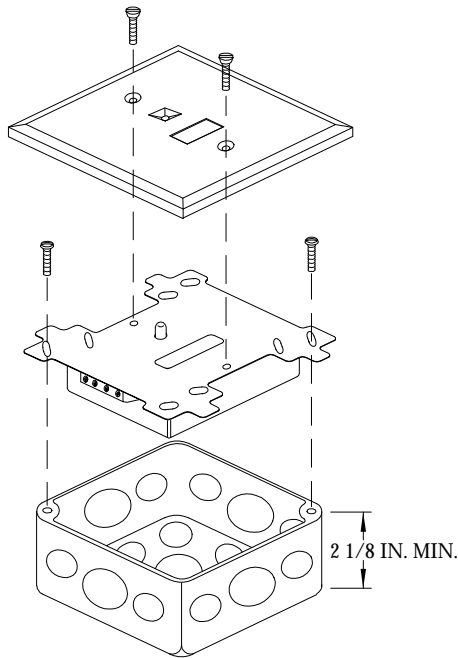
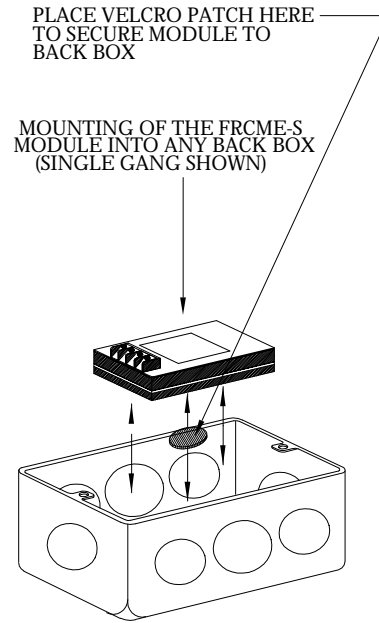
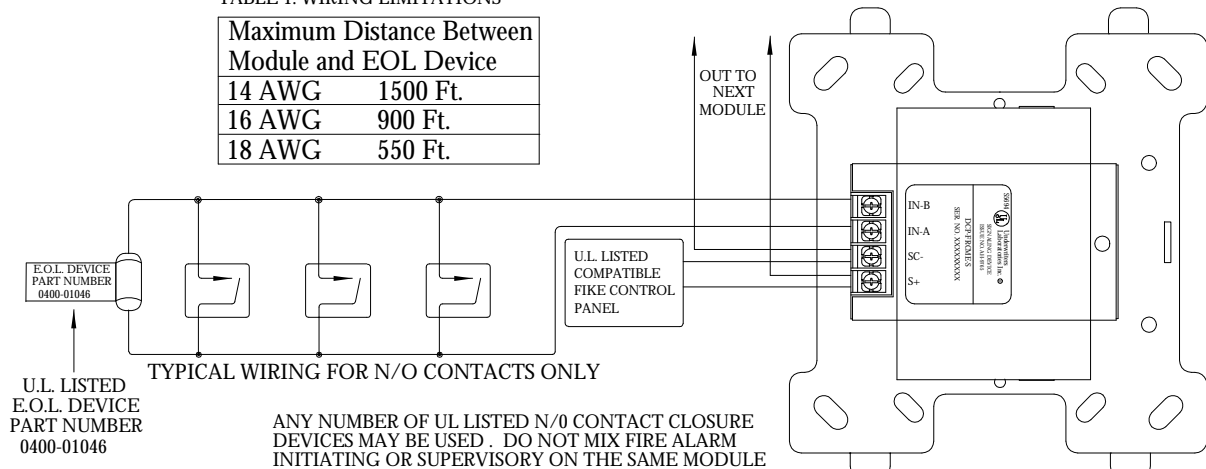

FIGURE 2
FIGURE 3
FIGURE 4.
The DCP FRCME Module has two mounting options. The FRCME-4 is shown in Fig. 2, the FRCME-S is shown in Fig. 3. All the modules will follow Fig.4 for wiring connections.
- 1) Install module wiring in accordance with the job drawings and appropriate wiring diagram (see Fig. 4).
- 2) Secure the module to a U.L. listed electrical box (supplied by installer) as shown in Fig. 2, 3.